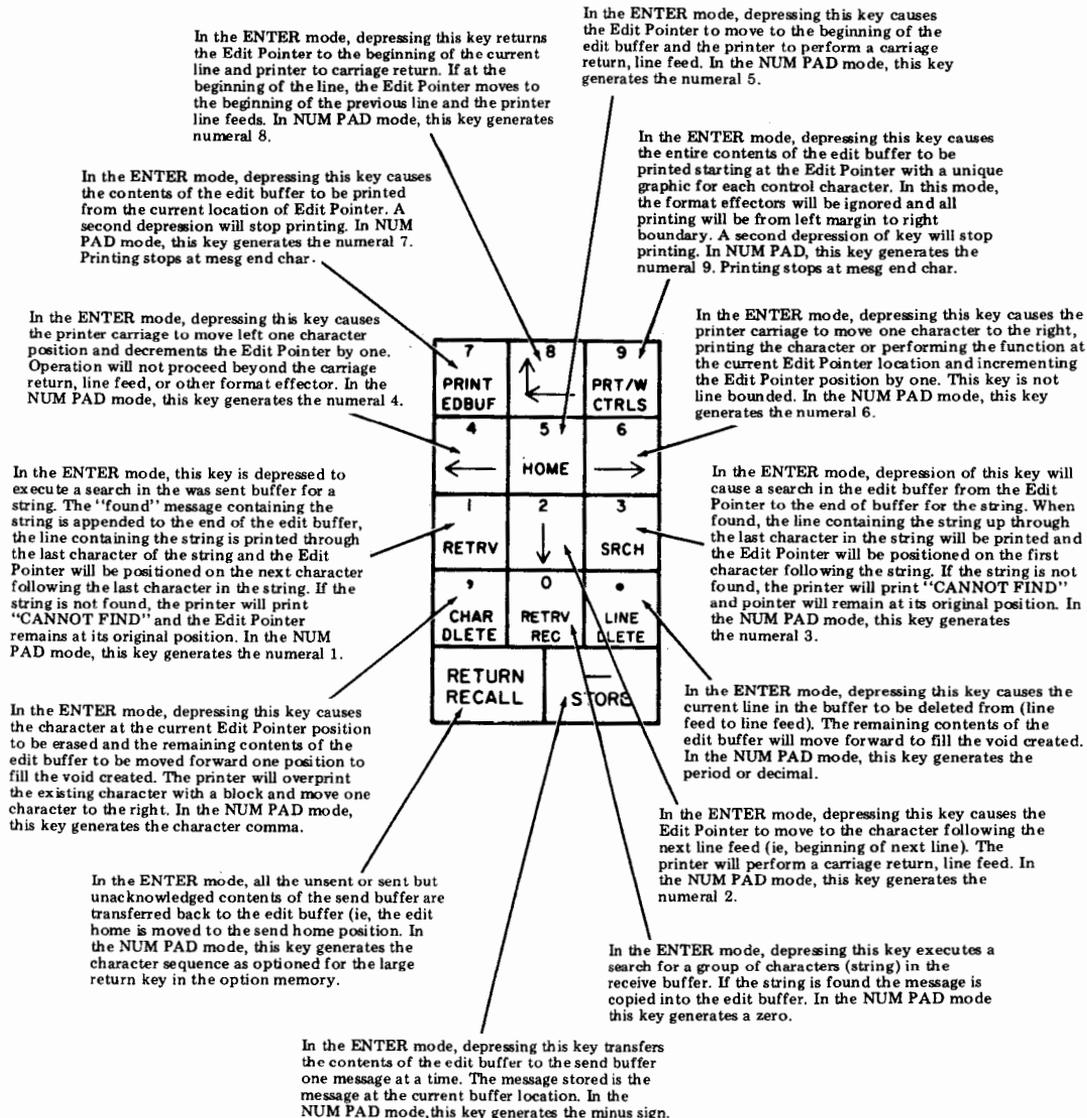

Fig. 5—Numeric/Edit Pad
3.04 The functions of the Numeric/Edit Pad are described in Fig. 5.